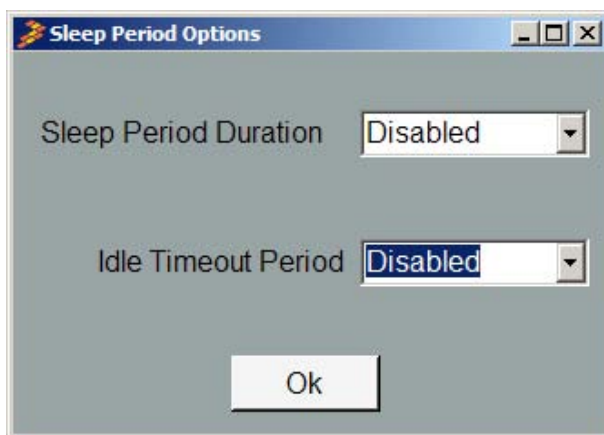

Figure 23. Sleep Period Options
- G. Low Power Configuration Register – The low power configuration register is used to configure the device to reduce power consumption by reducing the sampling rate. The Low Power Configuration register is used to set both the Idle Timeout Period and the Sleep Cycle Duration multiplication factors (Figure 23). The Low Power configuration is only active in Run2 mode. In order to put the part in Run2, deselect the Duty Cycle Enabled bit in the Configuration Register Options. The user can choose to run Low Power mode with interrupts or polling. When the sensor is successfully in Low Power, the FIFO log window will appear which will detect touch/releases. Please note, that the LEDs do not respond in Low Power Mode.